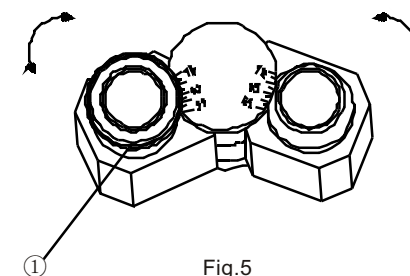

Fig.5
Put a piece of specimen on the stage and focus to obtain the image of it. Adjust the interpupillary distance of binocular until the right-left field of view can be composed one. (Fig.5)
Turn the 40× objective to observation position. Firstly, observe the right tube with right eye, adjust coarse-fine focusing knob to image clearly. Secondly, observe the left tube with left eye, adjust the diopter control ① to image clearly.( Fig.5)